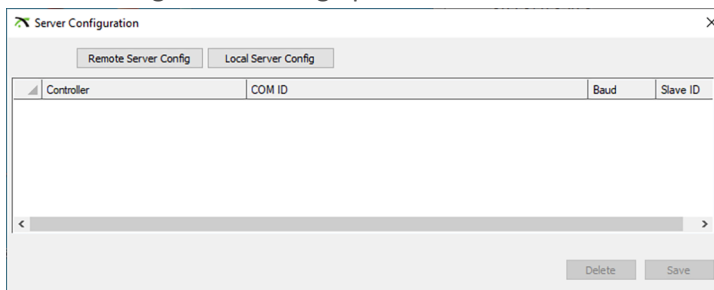

Figure 13 *Server Configuration Dialog – Remote Server Config*
1. On the Server Configuration dialog, click **Local Server Config**. The Server Configuration dialog opens (see Figure 13 on page 28).